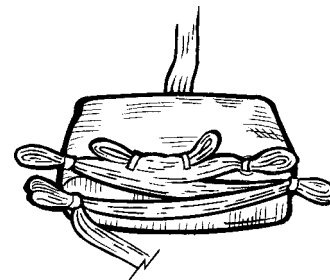

FIG. 6
9. Pull the bridle out from the top of the bag until the metal ring of the canopy is seated against the grommet of the bag. Be sure there is no canopy fabric between the ring and the grommet. Now stow the remainder of the suspension lines across the bottom of the bag in the rubber bands at each end. Make line stows as per canopy manufacturers recommended size/length. Leave 12" to 15" of lines unstowed between the bag and the connector links. (FIG. 6).